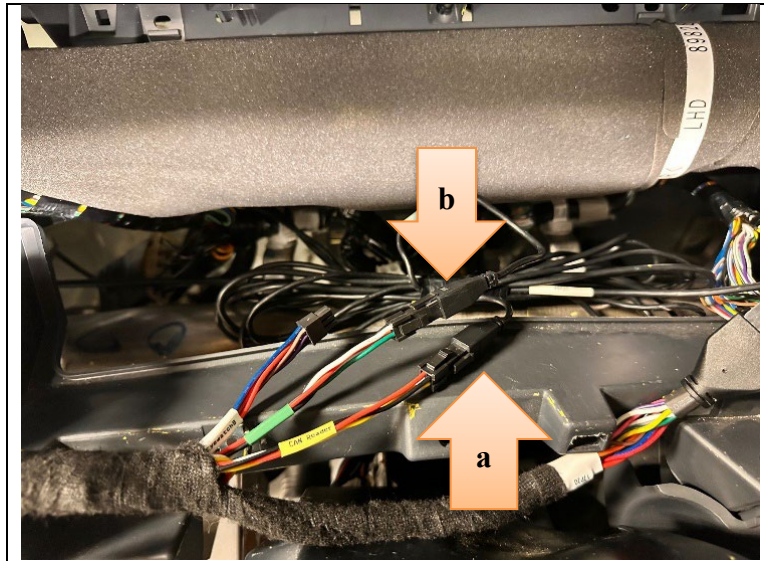

Figure 73
77. **Mobileye 8 ONLY:** Disconnect the CAN reader connector from the old harness and plug it in to the new harness. Disconnect the old EyeWatch harness and plug it in to the new harness. (See Figure 73.)